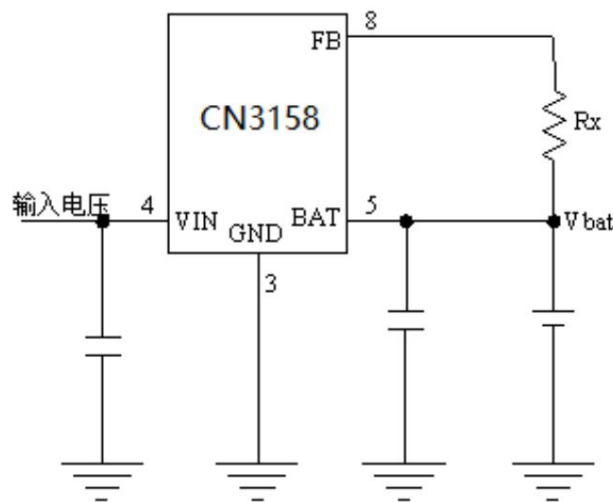

Figure 5 Adjusting the constant voltage charging voltage
charging voltage If a resistor is connected between the battery voltage detection pin (FB) of CN3158 and the positive electrode of the battery, the constant voltage charging voltage of the positive electrode of the battery can be increased, as shown in Figure 5.
If the connection method in Figure 5 is used, the constant voltage charging voltage VREG is: